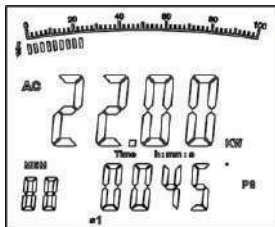

Figure 7
1. Press **SEL** to choose first phase ①, see figure 7. The double displays show the active power kW value and the PG value of the second phase 1.